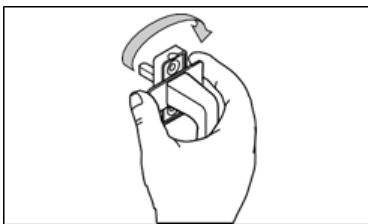

Figure 2-3. How to uncover the screw holes
- 2.1 Pull the screw cover of the Euro-Handle base towards you and rotate it 90° to uncover the screw holes. See fig. 2-3.